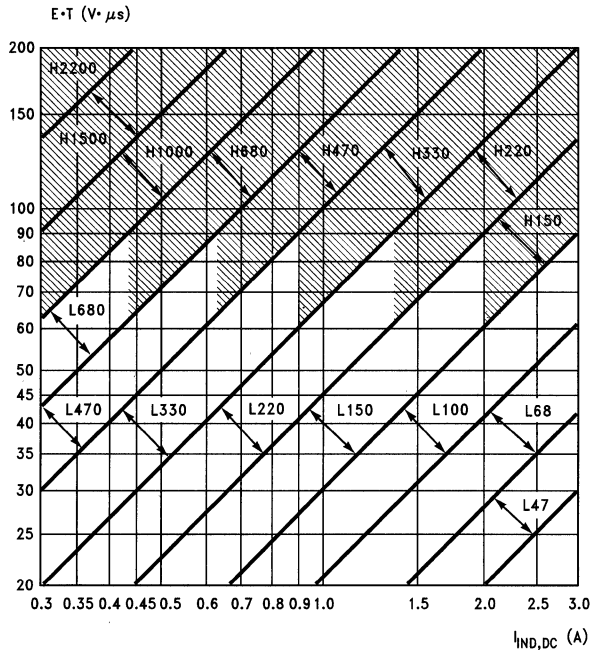

FIGURE 7c. LM1577-ADJ/LM2577-ADJ Inductor Selection Graph
1. From Figure 7c, identify the inductor code for the region indicated by the intersection of  $E \cdot T$  and  $I_{IND,DC}$ . This code gives the inductor value in microhenries. The L or H prefix signifies whether the inductor is rated for a maximum  $E \cdot T$  of  $90 V \cdot \mu s$  (L) or  $250 V \cdot \mu s$  (H).